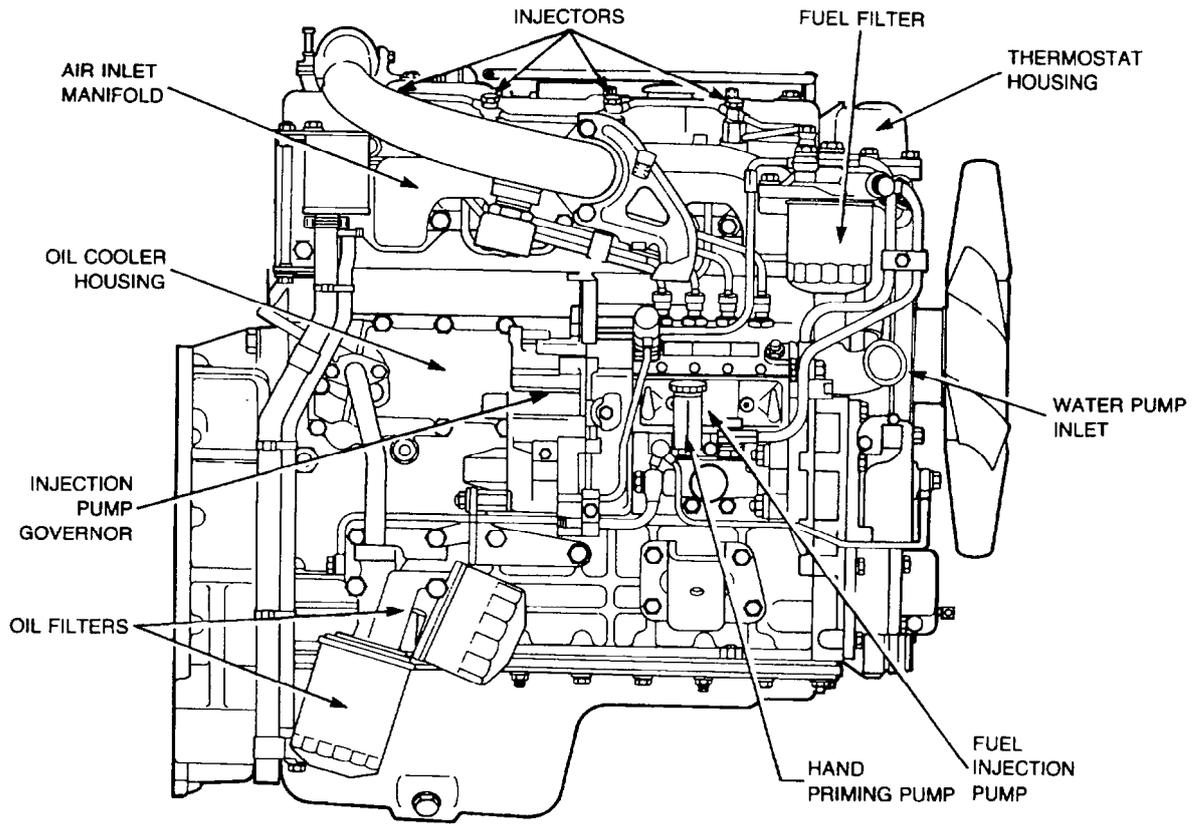

Figure 3 Isuzu Engine 4BD1T, Right-hand Side
**26.** Figures 3 and 4 illustrate the right- and left-hand views of the engine and show the location of the various components.